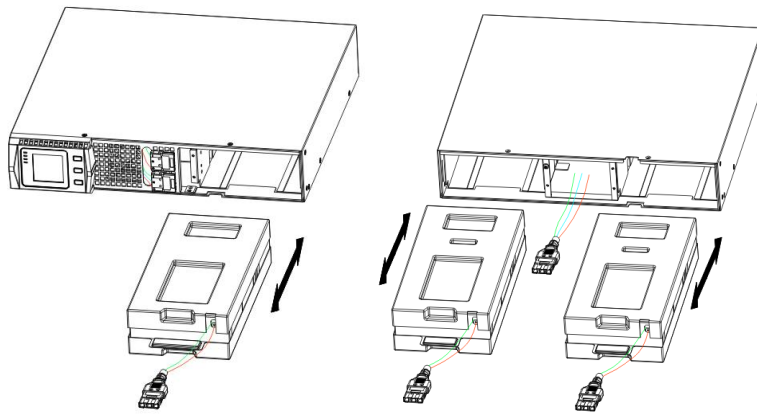

FIG.23 Remove the battery park
4. Grasp the handle in front of the battery pack, pull it out, and remove the battery pack as fig. 23 shown.